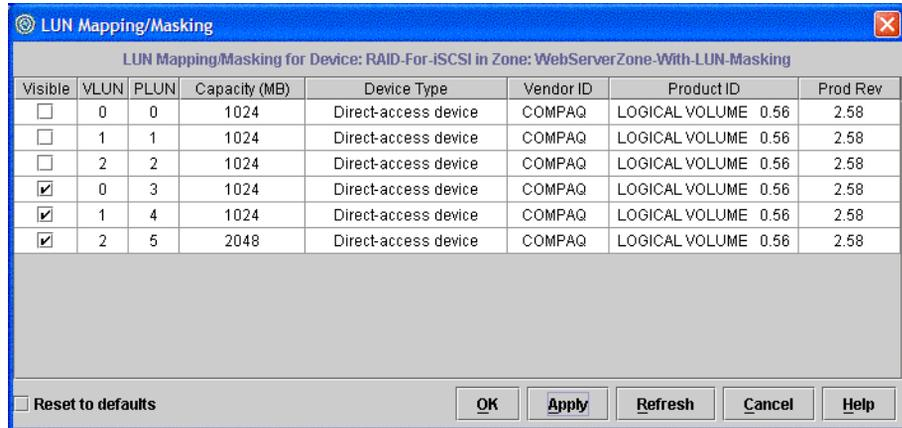

Figure 5-11 LUN Mapping/Masking Dialog Box
6. Add the iSCSI initiator to the new zone. The new changes are visible in the mSAN Configuration window, as shown in Figure 5-11 on page 5-23.